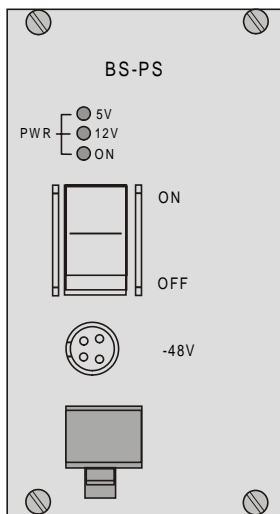

Figure 2-6. BS-PS Front Panel
The BS-PS provides power to all the modules installed in the BS-SH rack. The BS-PS front panel is shown in Figure 2-6.
4. Connect the DC power cord to the –48 VDC In jack (marked –48V) located on the front panel of the BS-PS power supply shown in Figure 2-6. If a redundant power supply module is installed, connect a power cable to it as well.
2. Connect the AU -PS DC power cord to the DC In jack (marked DC-12V) located on the rear panel of the Indoor unit (shown in Figure 2-6).